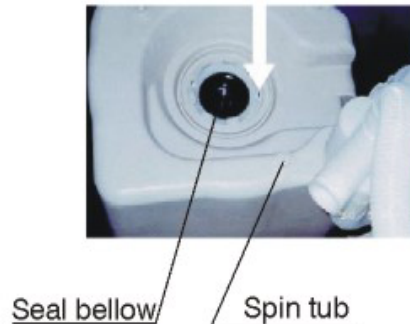

Figure 13
**To replace seal bellow** (see Figure 13)